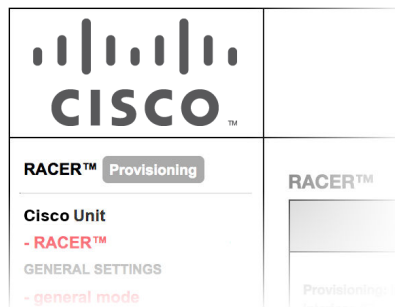

Figure 16. Racer status icon (Provisioning Mode)
- Check that the unit is in Provisioning Mode by looking at the colored icon to the right of the **RACER™** tag in the upper left-hand corner of the screen (Figure 16 \(page 62\)).